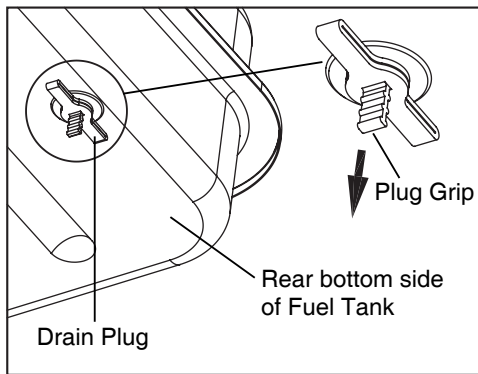

Figure 8
2. Remove drain plug from rear bottom side of fuel tank by pulling plug grip downward and drain. (For DFA-125 Model Only. See Figure 8)